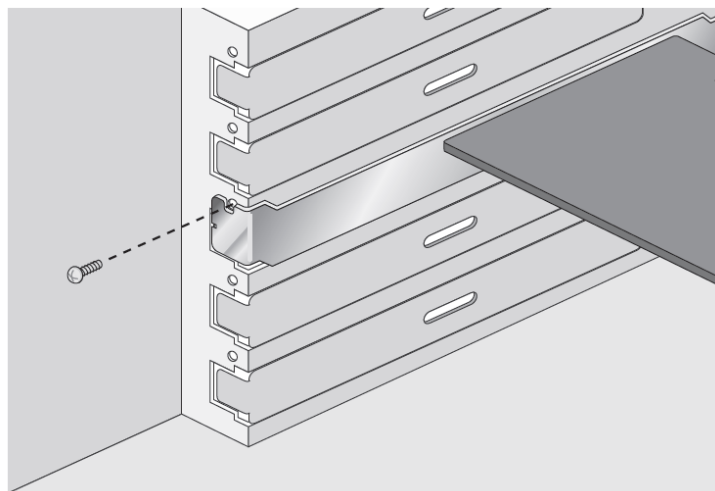

Figure 6. Securing the Adapter Card
6. Secure the network adapter card to the chassis with a Phillips-head screw (not provided) as shown in Figure 6.